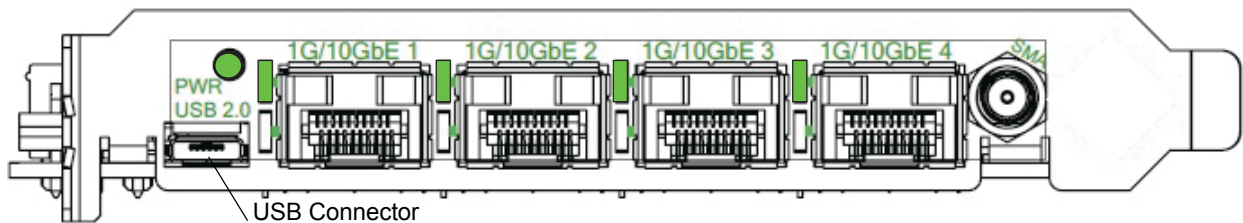

Figure 4-4: Bracket showing the USB Connector
9. Optional: Connect the USB micro-to-A cable, as shown in Figure 4-4. Connect the other end to the Host PC in an available USB port.